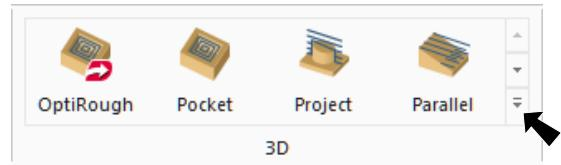

Fig. 50
- Step 1. On the Toolpaths tab  in the 3D group click expand gallery button  and click  **Spiral**, Fig. 50.